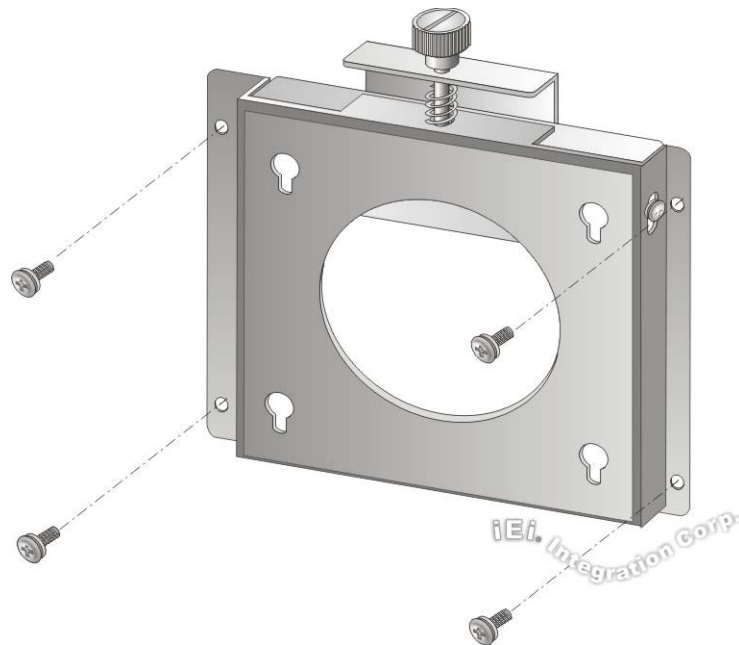

Figure 3-4: Wall-mounting Bracket
- Step 5:** Secure the mounting-bracket to the wall by inserting the retention screws into the four pilot holes and tightening them (**Figure 3-4**).